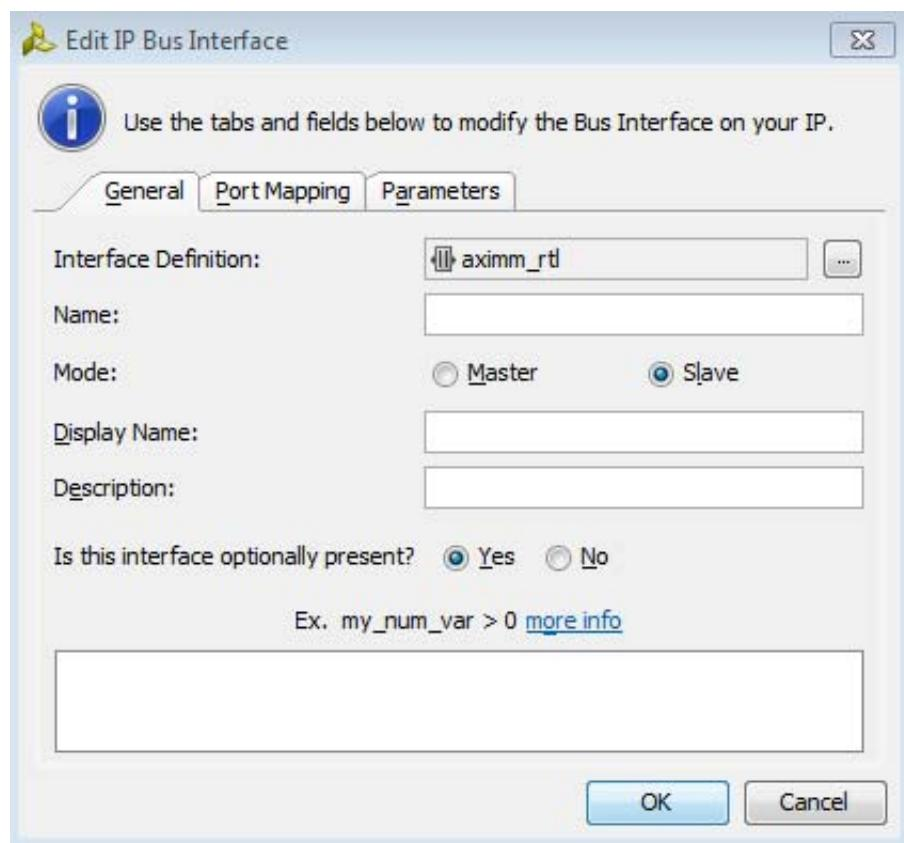

Figure 8-58: Edit IP Bus Interface with Expression Text Box
- If **Yes**, the enablement expression text box becomes visible in the dialog box (Figure 8-58).